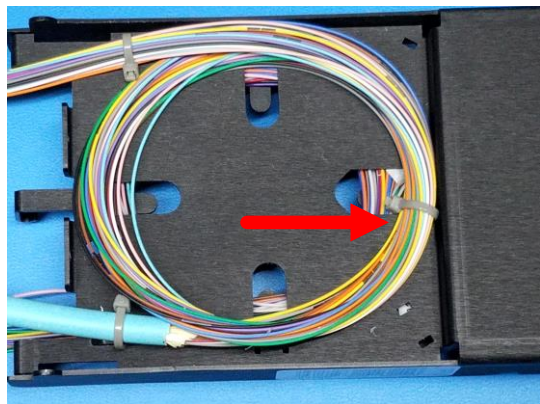

Figure 9
**4.3** Re-install the trunk cable to the entrance tie down point and secure the service loop as shown in steps 3.7 and 3.8. Provide an additional tie wrap at the front of the storage as shown in **Figure 9**. Trim the tie wrap tails and install the rear lid.